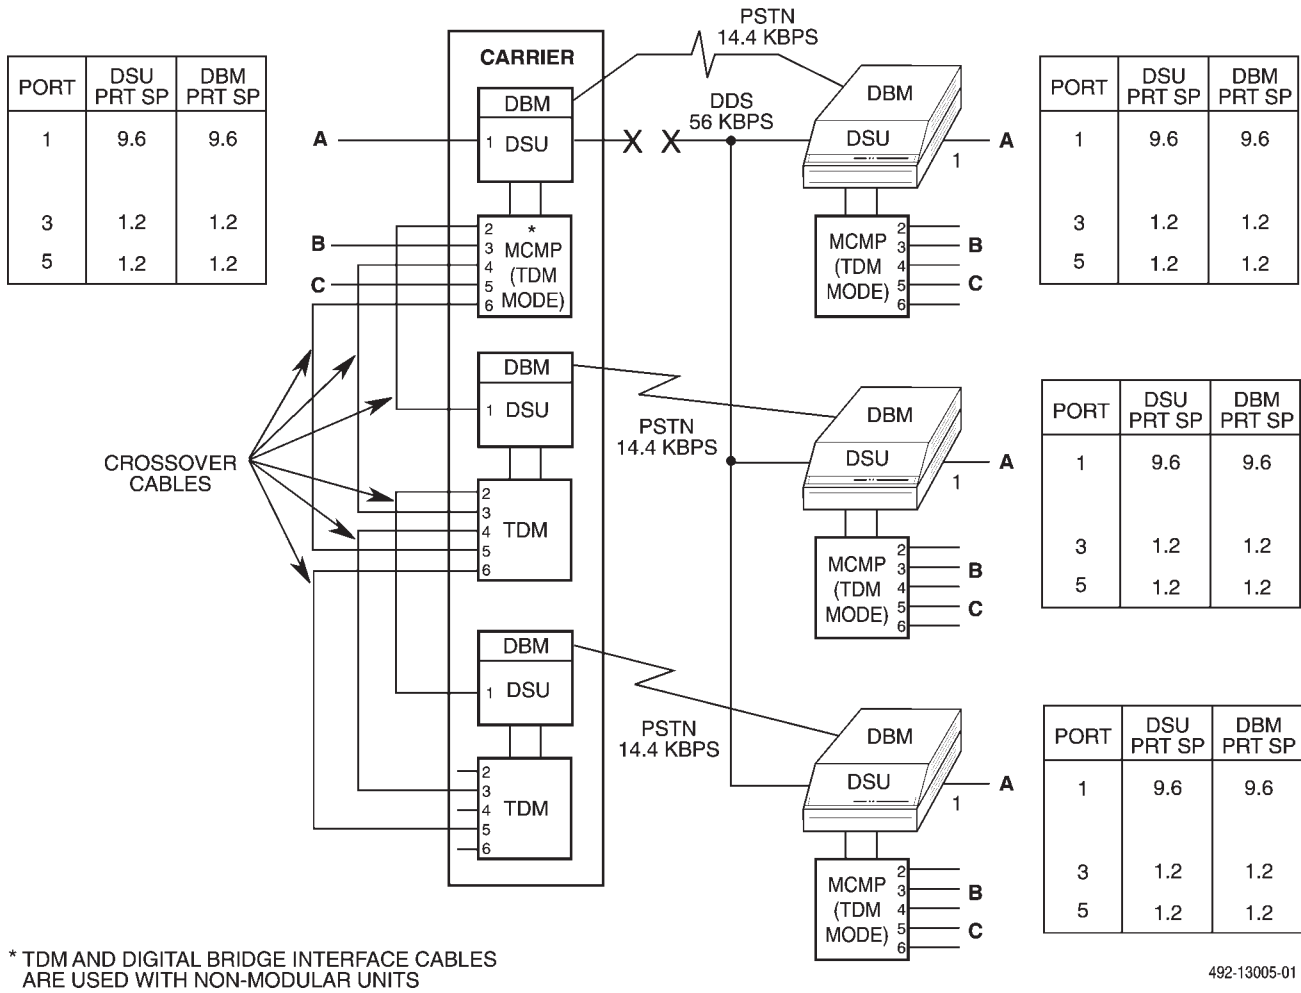

Figure 4-25. Case 4 – Backing Up (Up to) Three Channels via the FEP Port-Sharing Feature
- Case 4 – Backing up (up to) three channels at each tributary via the FEP port-sharing feature** (Figure 4-25). In this case, each tributary DSU to be backed up must be equipped with a DBM and the MCMP Backup configuration option should be set to TDM. At the central site, a DSU-DBM-TDM or DSU-DBM-MCMP unit operating in TDM mode must be available for each tributary to be backed up.